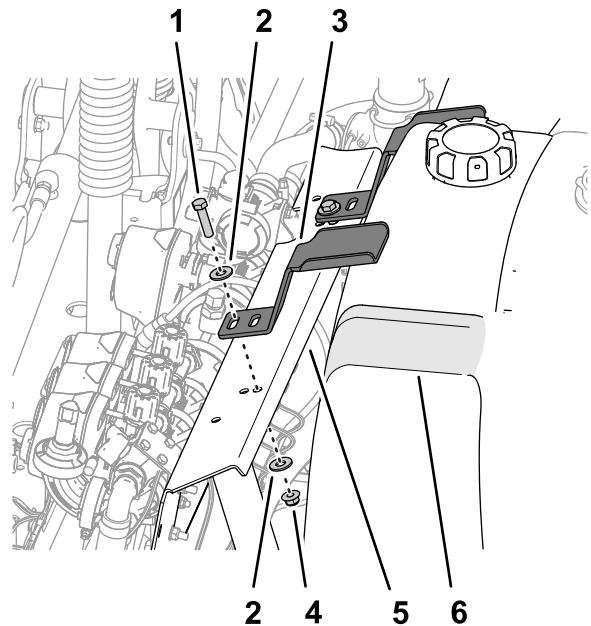

Figure 14
2. Align the hold down with the recess in the top of the rinse tank (Figure 14).
3. Align the slot in the hold down with the hole in the valve mount (Figure 14).
5. Repeat steps 2 through 4 for the other hold down at the other recess in the rinse tank (Figure 14).